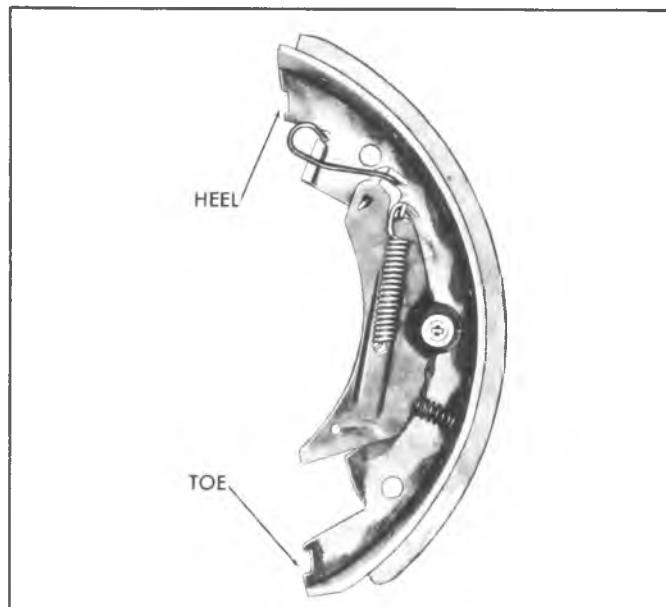

Fig. 82--Brake Shoe and Self Adjuster Assembly
**NOTE:** Make sure the toe of the shoe is against the adjusting screw (fig. 82).